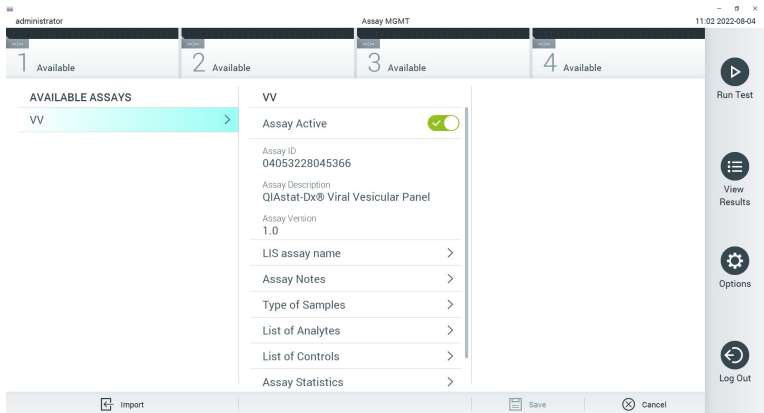

Figure 23. Activating the assay.
7. The assay becomes active by selecting **Assay Active** (Figure 23).